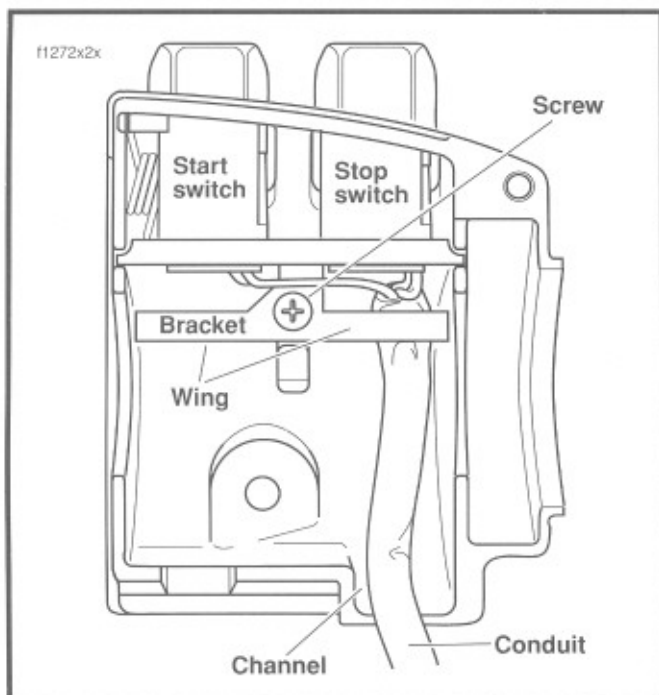

Figure 7-77. Upper Right Handlebar Switch Housing (Without Splices)
- See Figure 7-77. From inside the switch housing, remove the Phillips screw with lockwasher to release the bracket. Remove the bracket and switch assembly from the housing.
9. Install Phillips screw (with lockwasher) to secure bracket inside housing. Verify that wing on engine stop switch side of bracket captures edge of conduit as shown in Figure 7-77.